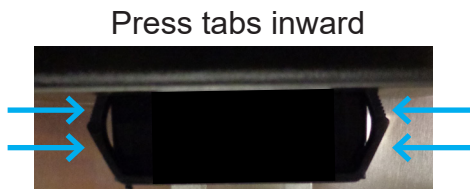

Figure 1
- 5) To release the battery meter from the CooLift enclosure, reach underneath the enclosure and find the tabs located on both sides of the meter (see Figure 1). Squeeze the tabs inward and ease the battery meter upward and out of the enclosure.